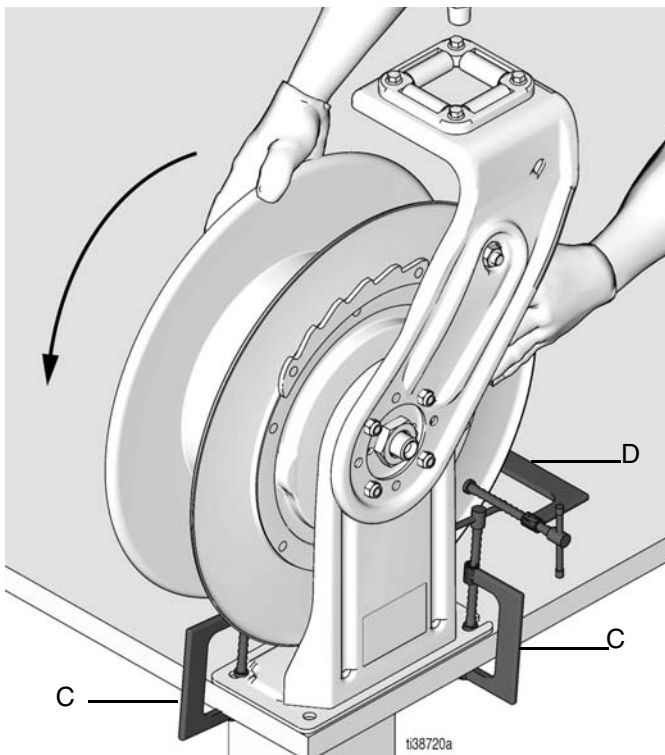
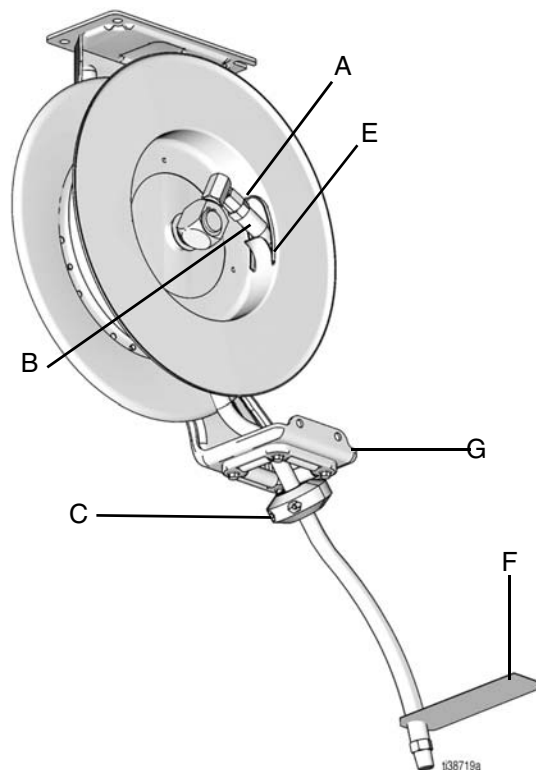

FIG. 8
FIG. 9
2. Secure the reel to a solid surface with C-clamps (C) (FIG. 8)
4. While wearing heavy gloves, firmly grasp the outside edge of the reel flange with both hands. Wind the spool the correct number of turns (see reference table from Step 1), rotating the reel in the direction shown in FIG. 8.
- Stop the reel where there is access to the hose swivel (A) (FIG. 9), and where the reel is securely latched.
5. Before installation of the hose, attach a C-clamp (D, FIG. 9) to the reel flange to prevent the reel from unintentionally becoming unlatched and spinning freely.
7. Install the hose stop (C) (FIG. 9) to the end of the hose. If the hose has a warning tag (F), the hose stop should be installed on the same end of the hose as the warning tag.
8. Run the end of the hose (B) through the hose guide (G) and then to the hole (E) in the reel (FIG. 9).
9. Attach the hose end (B) to the hose reel swivel (A).
10. Carefully remove the C-clamp (D) (FIG. 8),